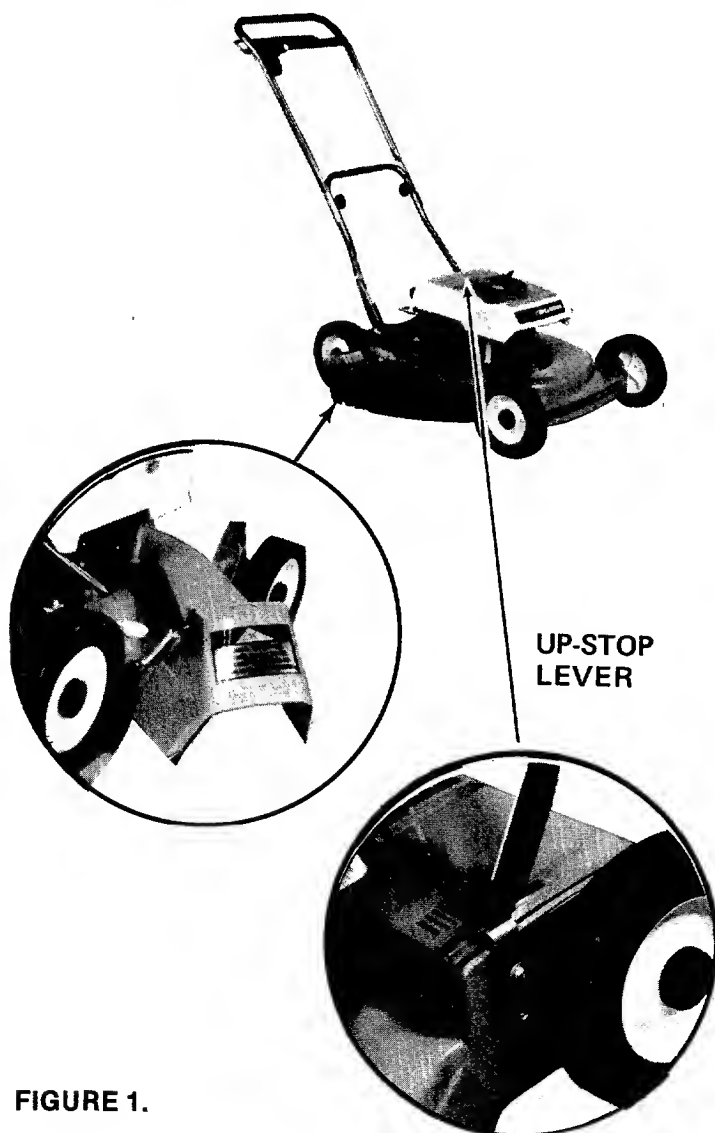

FIGURE 1.
1. Move the chute deflector down into the operating position. See figure 1.